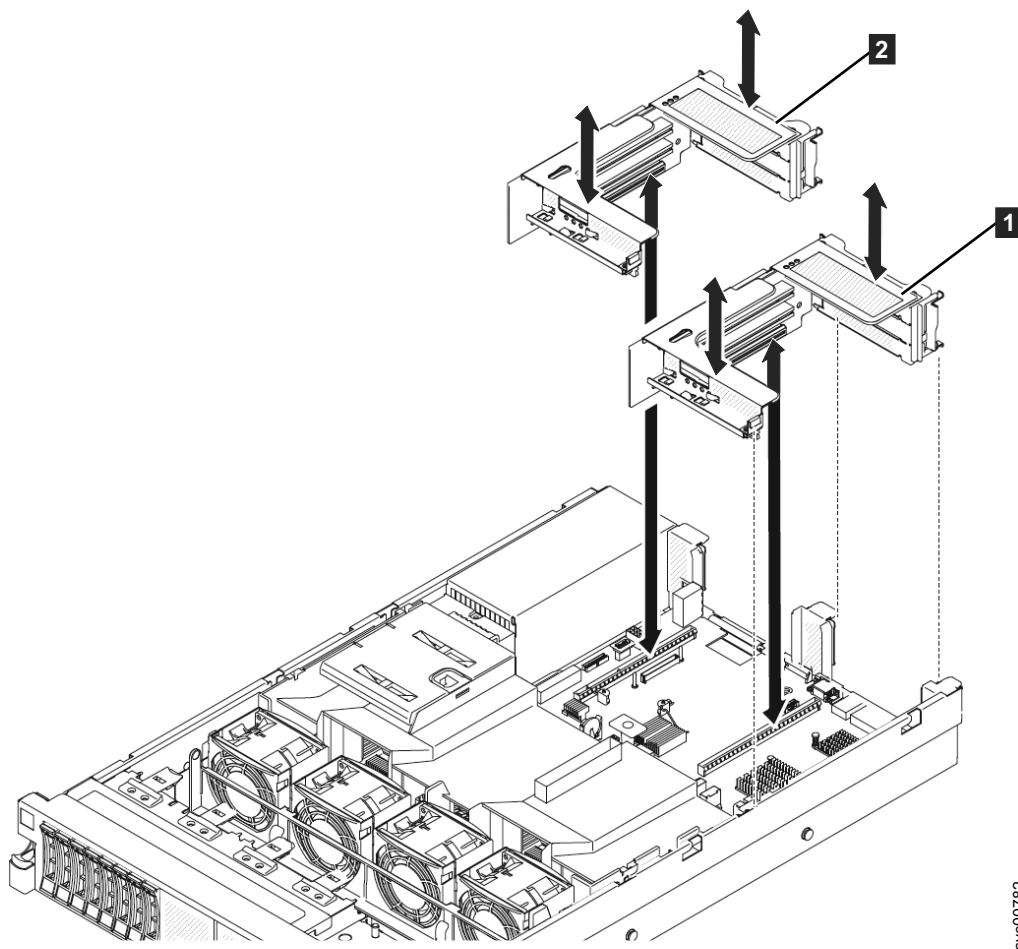

Figure 152. Replacing the 2145-DH8 PCI express riser card assembly
- PCI riser slot 1 **1** (the slot farther from the power supplies): You must install a PCI riser-card assembly in slot 1. See Figure 152 on page 180.